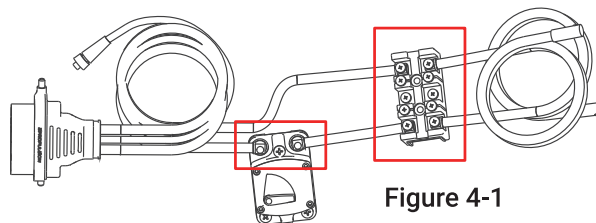

Figure 4-1
- Check Fasteners:** Inspect the screws and nuts securing the circuit breaker to the terminal block for looseness. If any are loose, tighten them using an adjustable wrench or screwdriver. The locations of the screws and nuts are marked in Figure 4-1.